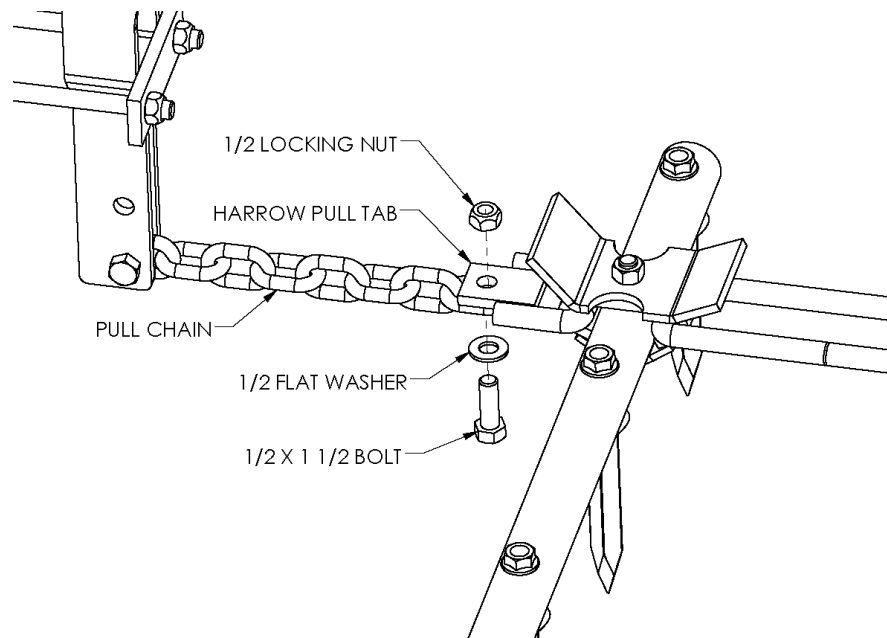

Figure 19
1. Bolt the pull chains to the front tabs on the harrow sections. Refer to Figure 19. Use 1/2" x 1 1/2" bolts, flat washers, and locking nuts. The chains should be bolted to the bottom of the pull tabs. Make sure that the chains are not twisted.
1. Bolt the pull chains to the front tabs on the front harrow sections. Refer to Figure 19. Use 1/2" x 1 1/2" bolts, flat washers, and locking nuts. The chains should be bolted to the bottom of the pull tabs.